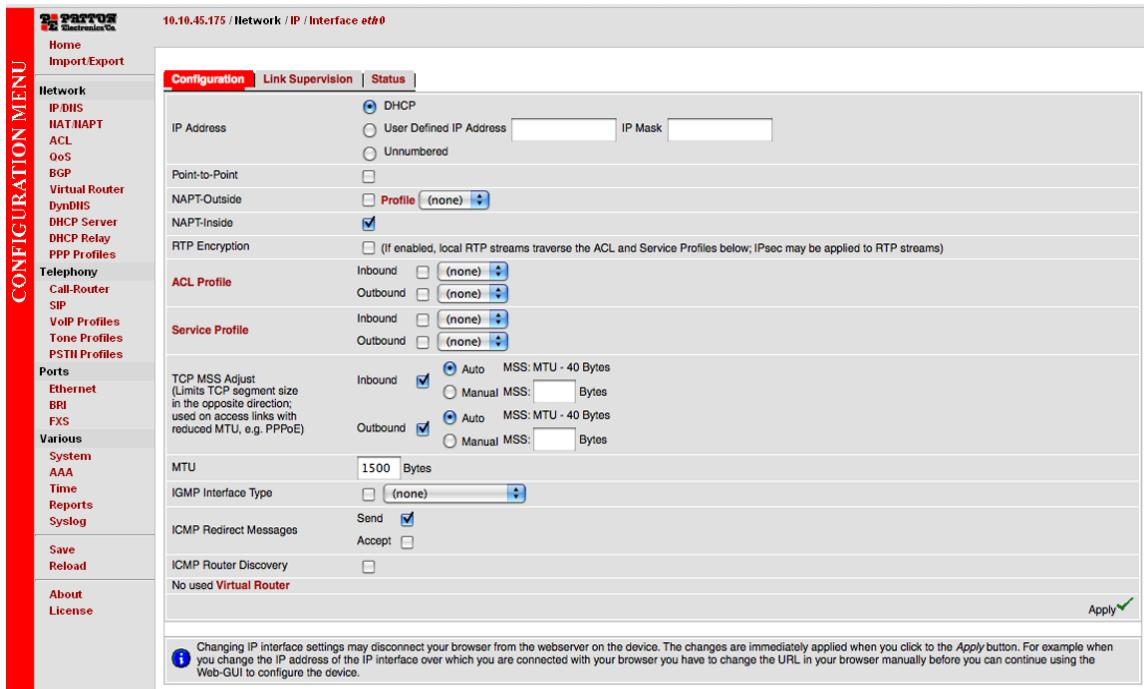

Figure 14. Ethernet Configuration page
1. In the configuration menu pane, click *IP/DNS*. In the *Interfaces* section, click on *eth0*. The Configuration screen for the Ethernet port displays (Figure 14).
The SmartNode supports two configuration options for the Ethernet connection (see Figure 14), as described in the following paragraphs: